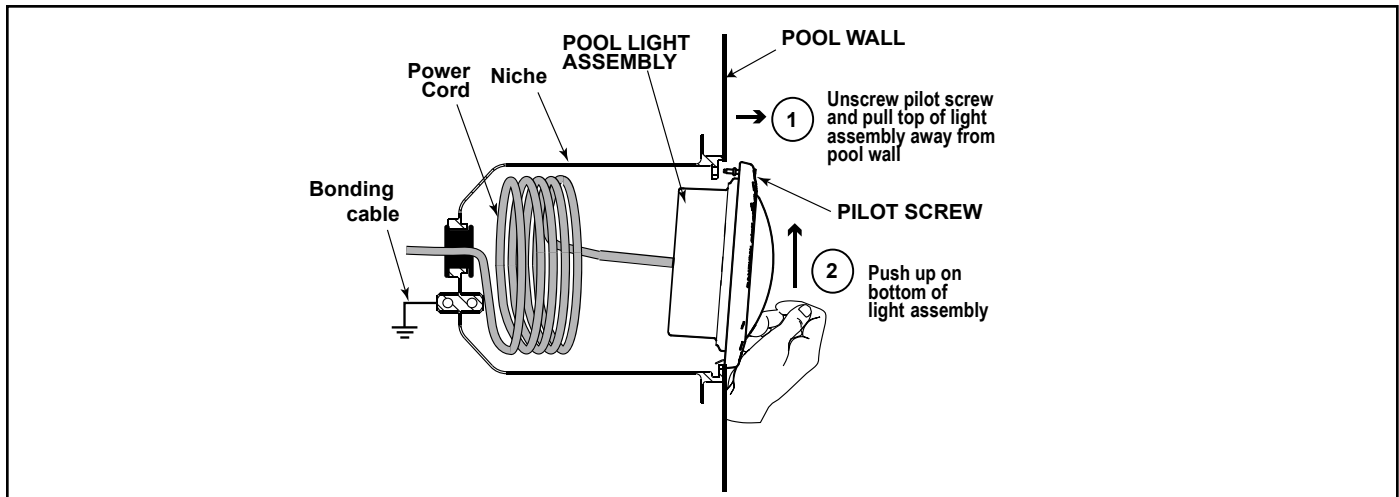

Figure 6. Removing the Jandy Pro Series WaterColors Light Assembly for Light Engine Replacement
3. To remove the light assembly, unscrew the special pilot screw at the top of the face ring, remove light assembly from niche and gently place assembly on the deck. It is not necessary to drain down the pool. See Figure 6.